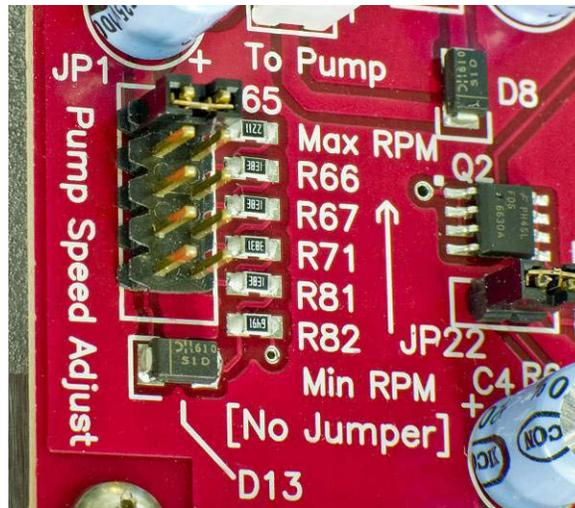

Figure 2-13 Jumper position utilized to increase pump speed (ASX-520)
- 2 Move the jumper from its existing position to the position marked “Max RPM” (Figure 2-13).